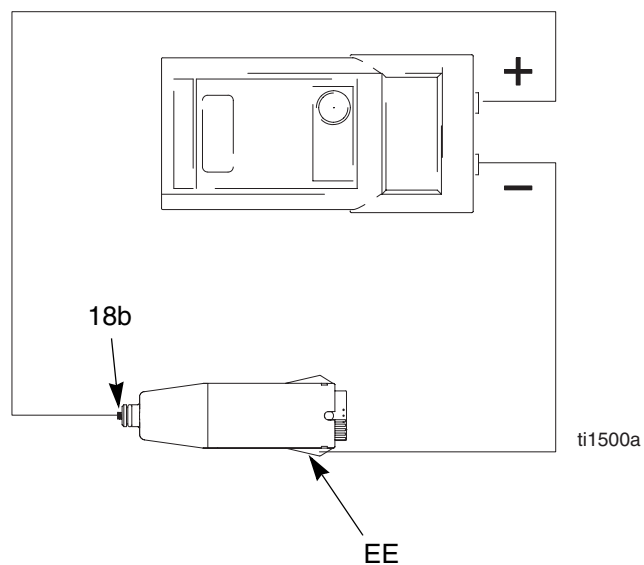

Fig. 5. Test Power Supply Resistance
1. Remove the power supply (18), page 30.
2. Remove the turbine alternator (19) from the power supply, page 31.
3. Measure resistance from the power supply's ground strips (EE) to the spring (18b). See FIG. 5..